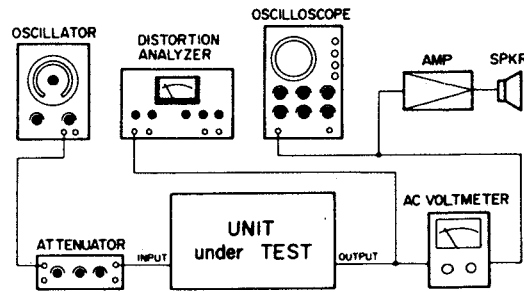

FIG. 28. DISTORTION TEST SET-UP
1. Connect test equipment as shown in Fig. 28.